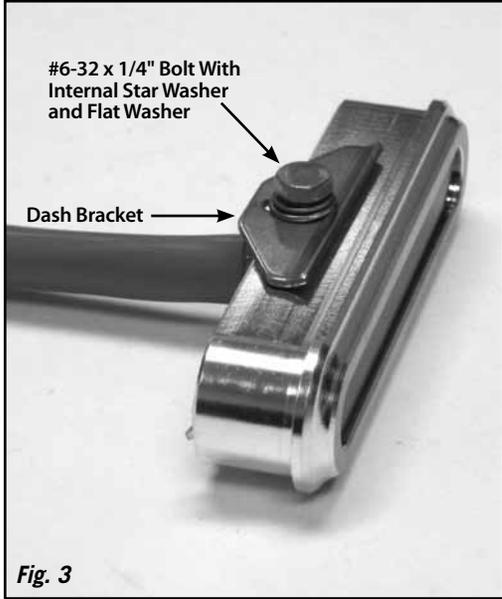

Fig. 3
Step 5: Remove the #6-32 x 1/4" bolts, internal star washers, flat washers, and the dash brackets from the bezel using a 1/4" socket or wrench. Fig. 3 Test fit the bezel into the dash. Check the dash thickness for proper fit, and make any necessary modifications to the dash.